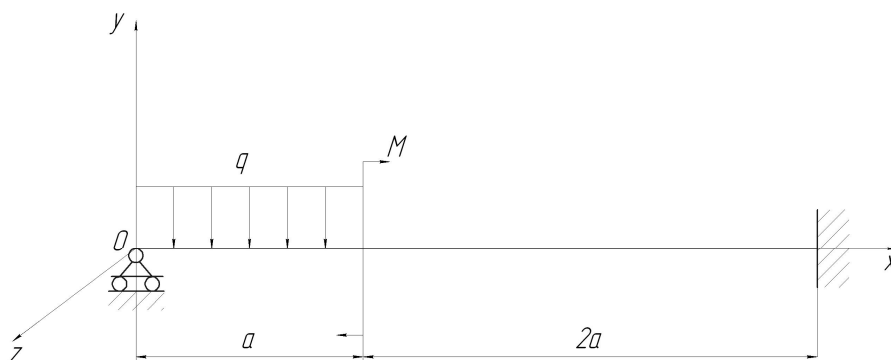
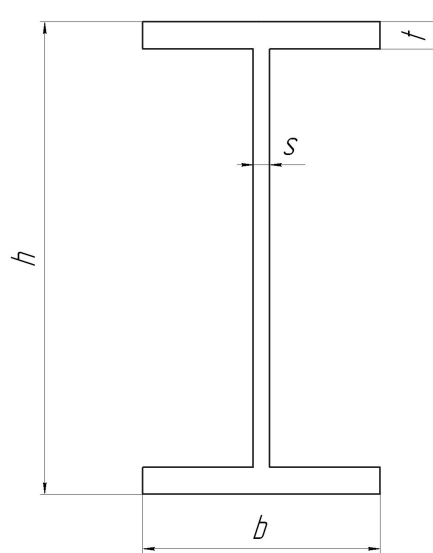

Fig. 2.1. Beam geometry
Fig. 2.2. I-section of beam
1) As an example, take beam with I-section (Fig. 2.1).
This beam is located relative to the Cartesian coordinate system OXYZ so that the x -axis is directed along the axis of the beam (Fig. 2.1). The y - and z -axes are directed along the main axes of inertia of the section, and the zero coordinate is located at the left end of the beam. Direct transverse bending is carried out in the OXY plane. The characteristics of the cross-section (Fig. 2.2) are taken from GOST 19425-74, we select a beam with the profile number 20C: